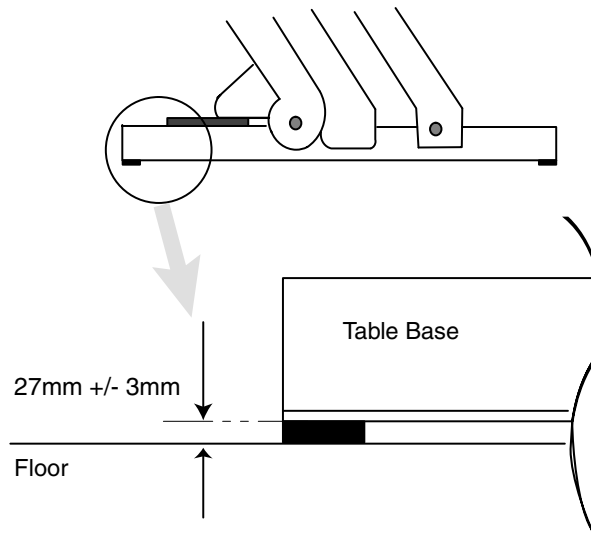

Figure 1-19 Typical Table Base Clearance
- 9.) The table base covers need a minimum of $27\text{mm} \pm 3\text{mm}$ between the bottom of the table base and the floor for the covers to fit correctly. Check the distance between the table base and the floor, to ensure the covers will fit properly. See Figure 1-19 and Figure 1-20.